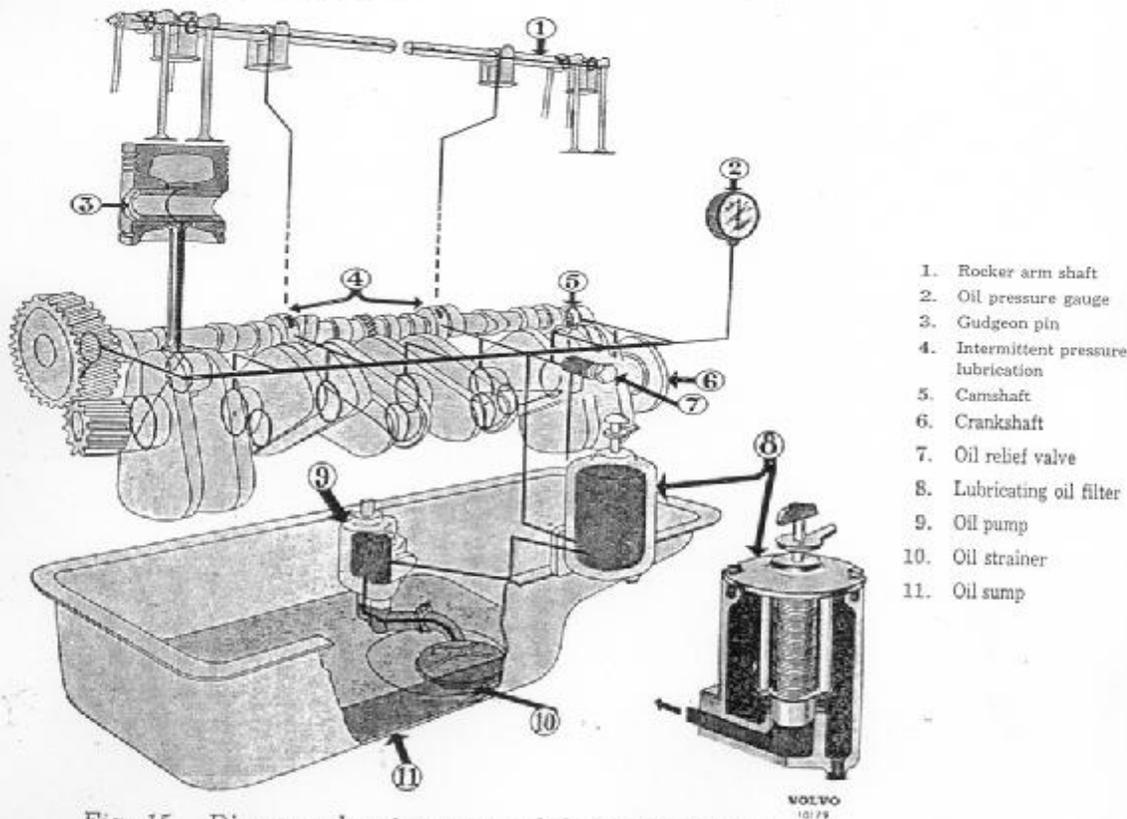

Fig. 15. Diagram showing engine lubricating system.
The engines are lubricated by means of complete pressure lubricating systems. See Fig. 15. Oil under pressure is fed by the oil pump (9) which sucks up the oil through an oil strainer (10) in the oil sump (11). From the pump the oil is fed through drillings and channels to the various lubricating points before running back to the sump which is on the lower part of the crankcase. In order to limit the pressure in the system, there is an oil relief valve (7). The oil is cleaned the whole time when it passes through the oil filter (8) and is cooled in the oil cooler (not shown in diagram).